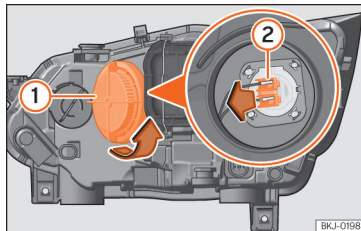

Fig. 101 In the engine compartment: main beam lamp.
- Turn the cover ① anti-clockwise and take it out »» Fig. 101.